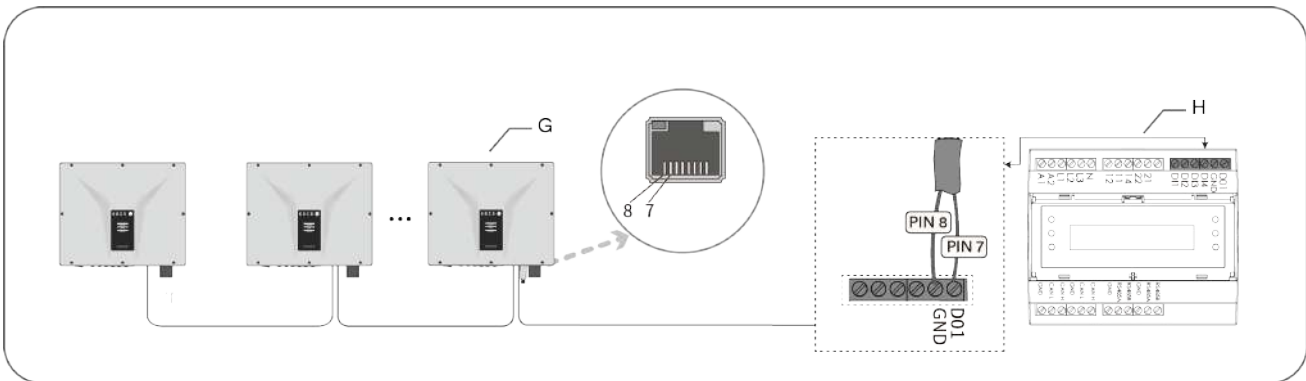

Fig. 44. Connect the network cable to Powador-protection device
8. Strip the insulation of the other side from the network cable and screw copper wire to the corresponding terminal of the Smart-Meter. Screwdriver type: SL1.5, tightening torque: 0.6 Nm (see Fig. 44).